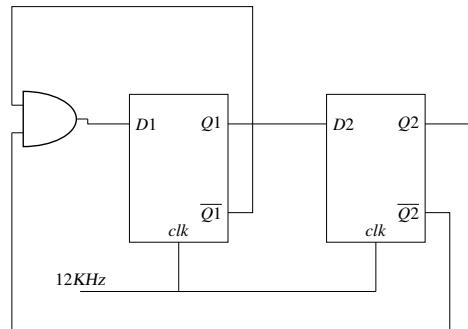

Fig. 5.18
18. In the circuit shown in Fig. 5.18, the clock frequency, i.e., the frequency of the clk signal, is 12 KHz. The frequency of the signal at **Q2** is \_\_\_\_ KHz. (GATE-EC2019,25)